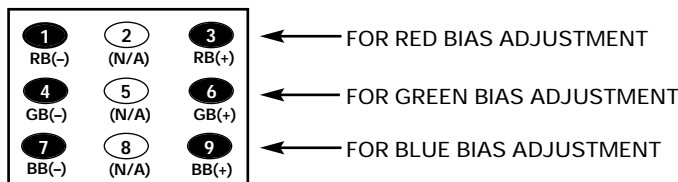

Figure 5. Remote Control Number keys' functions in Bias Adjustment (No Vertical Sweep)
12. Raise each Bias Level with 3, 6, and 9 keys to obtain just visible white line. See Figure 5.